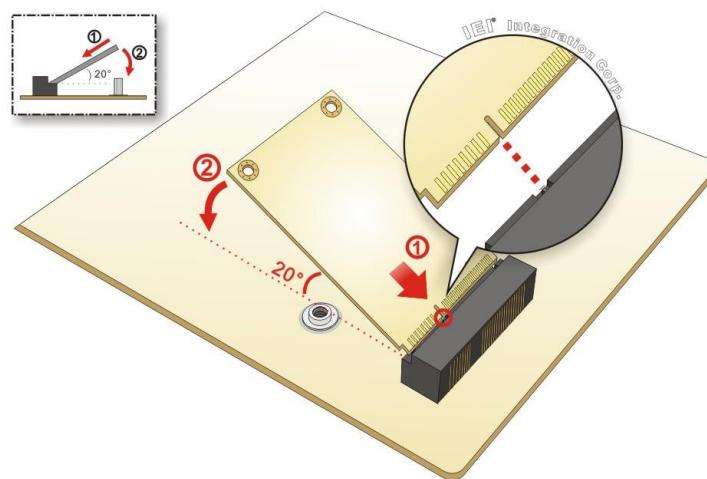

Figure 4-4: Inserting the Full-size mSATA Module into the Slot at an Angle
Step 3: Insert into the socket at an angle. Line up the notch on the mSATA module with the notch on the slot. Slide the mSATA module into the socket at an angle of about 20° (**Figure 4-4**).